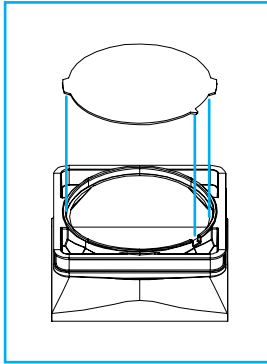

Fig.46
B. To change lens, carefully push the lens up out of the baffle. Insert preferred lens in proper orientation, and carefully press it into place *"Fig.46"*.